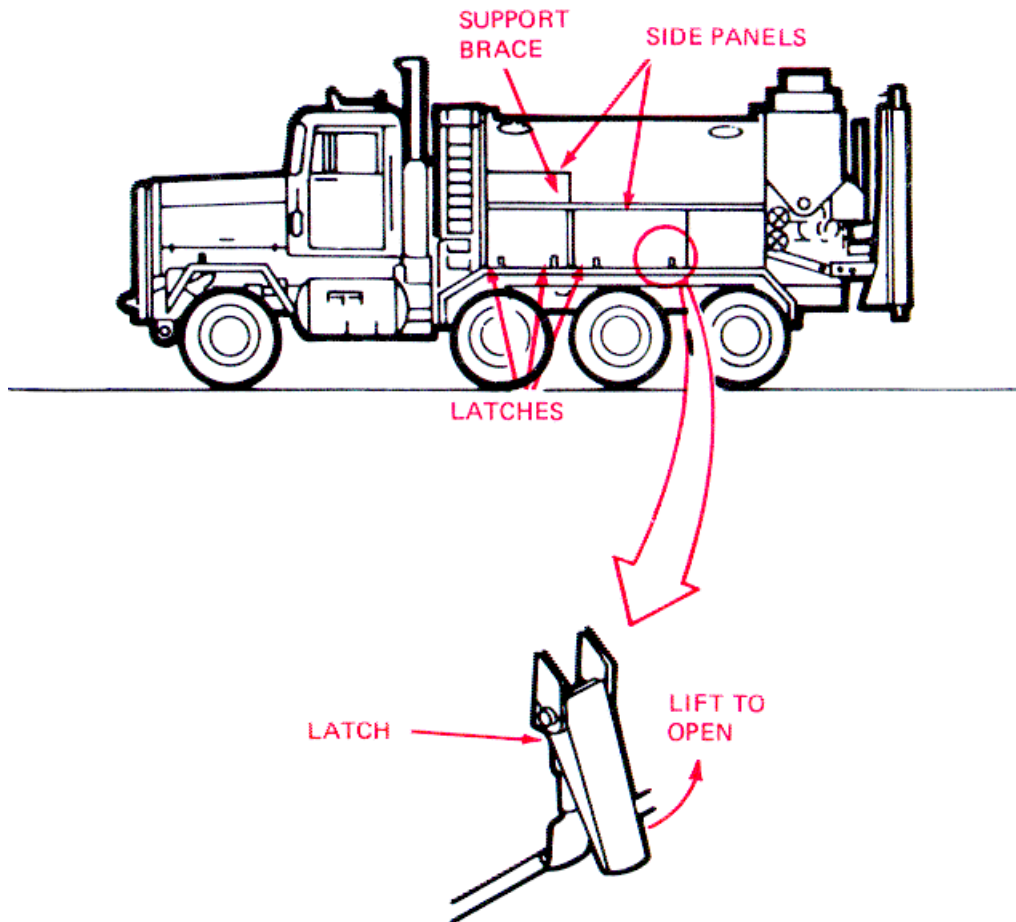

Figure 2-13. Side Panels.
- a. Open the side panels of the truck by lifting up on the latches (fig 2-13). Each panel has a brace to support it in a raised position.
- c. Lower the side panels. Flip the latches (fig 2-13) downward to lock the panels in place.